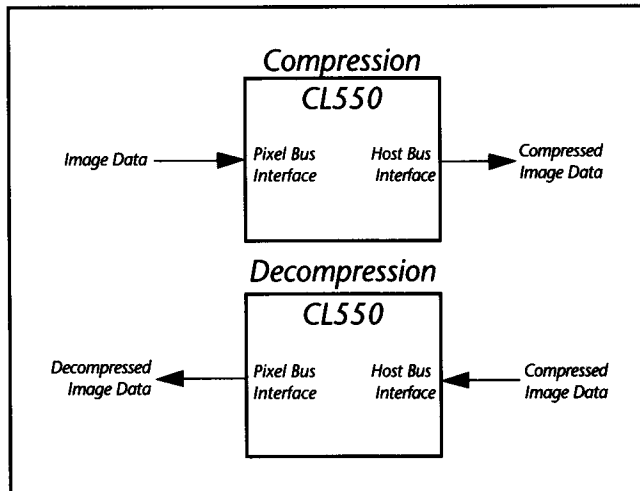

Figure 1-2. C-Cube CL550 Processor Data Flow
**Section 3** provides a functional overview of the C-Cube CL550. The C-Cube CL550 can be run in compression or decompression mode, as shown in Figure 1-2. In compression mode, pixel data is taken from the video bus, compressed, and made available on the host bus. In decompression mode, compressed data is acquired from the Host Bus Interface and decoded. Pixel data is made available on the pixel bus.